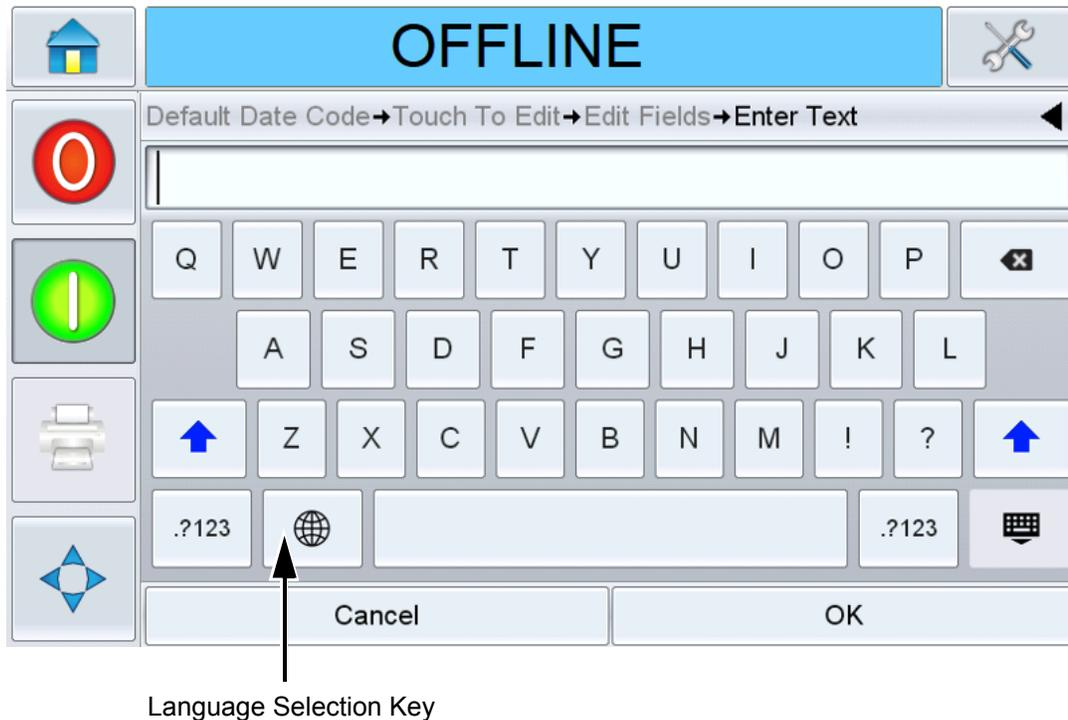

Figure 6-6: Default Keypad
- b. Touch the 'Language Selection Key', to access the available language selections (see Figure 6-6).